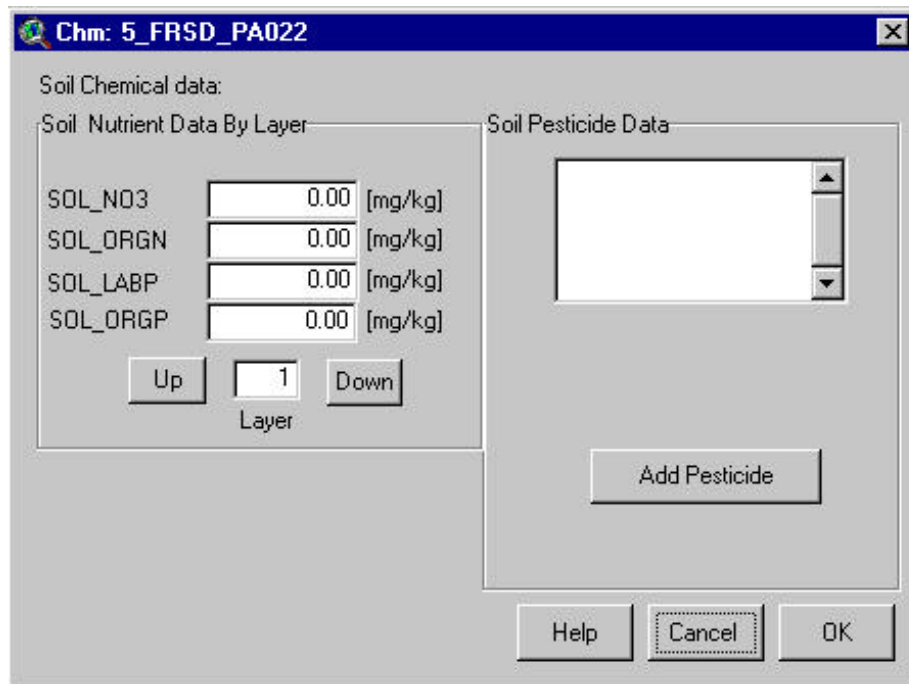

Figure 12.74
1. Click **.Chm** in the **Select Input File** list of the Edit Subbasin Inputs dialog box. Soil chemical parameters are displayed in a new dialog box titled *Chm: Subbasin #_Landuse type_Soil name* (Figure 12.74). A complete description of the variables is provided in the *Soil and Water Assessment Tool User's Manual, Version 2000*, Chapter 23.